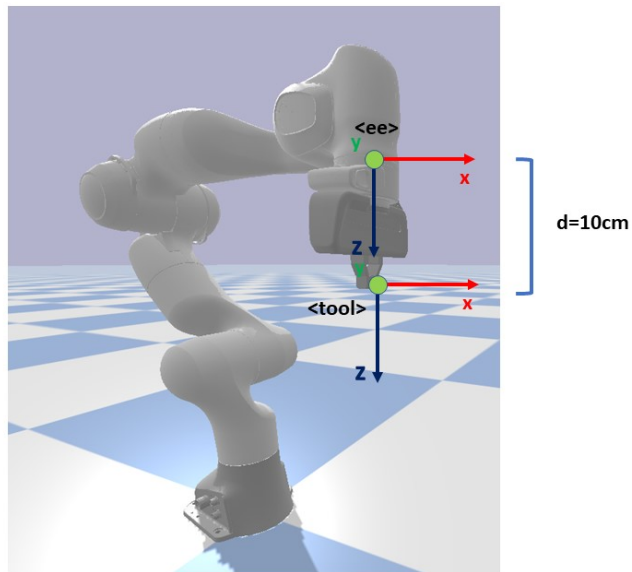

Figure 4: E-E frame and Tool frame of Left Arm
2. Define the tool frame for both manipulators, the tool frame must be oriented as the end-effector of the manipulator and placed at 10 cm from the end-effector frame along the z-axis, see figure 4.